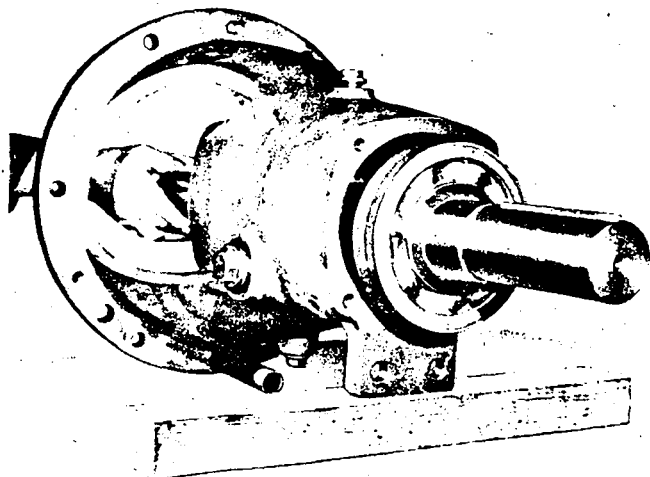

Fig. 26: Mounting the shaft in the bearing bracket
Mounting the shaft (210) in the bearing bracket (330) takes place in the opposite direction to dismantling (fig. 26).